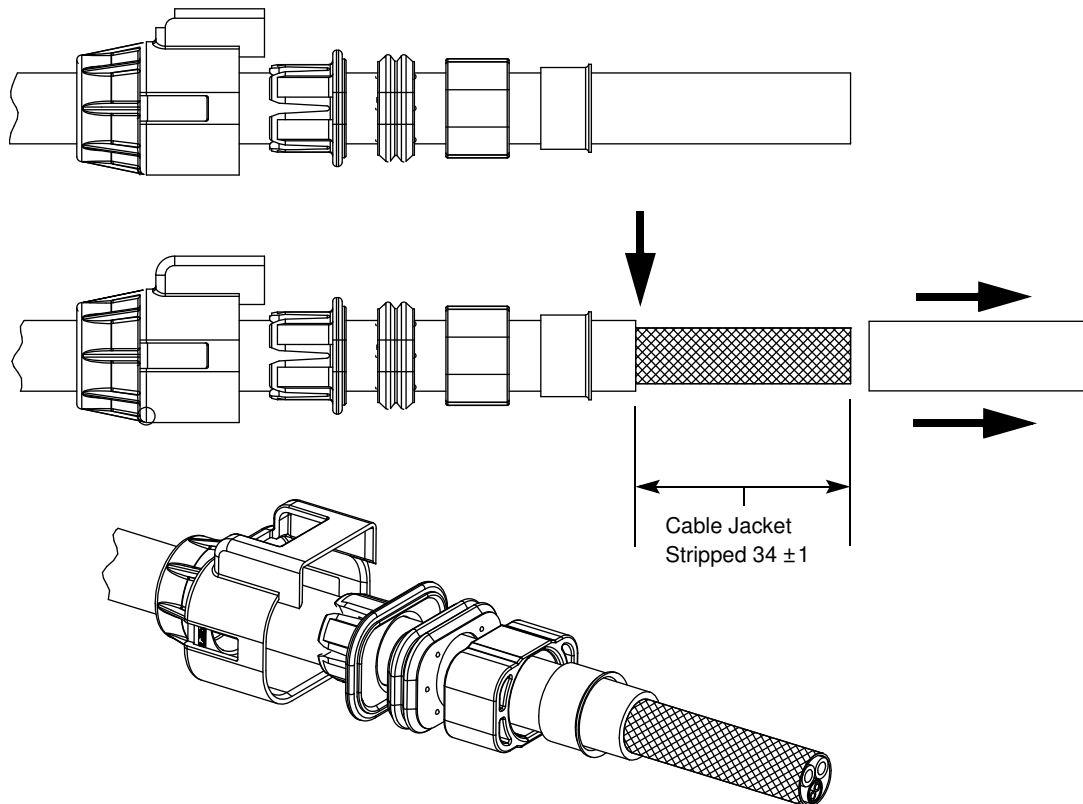

Figure 4
2. Strip and remove the outer cable jacket and separator (if present) from the end, exposing the braided cable shield as shown in Figure 4.